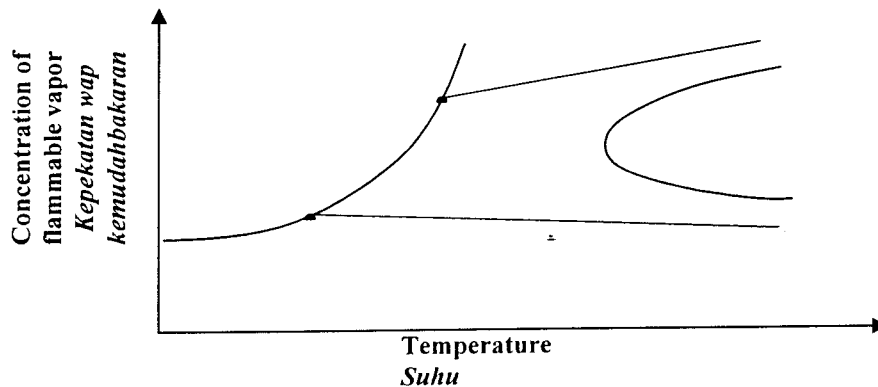

Figure Q.2.
2. [a] Figure Q.2. shows the relationships between various flammability properties. Label properties [i] to [viii] on the Figure Q.2.